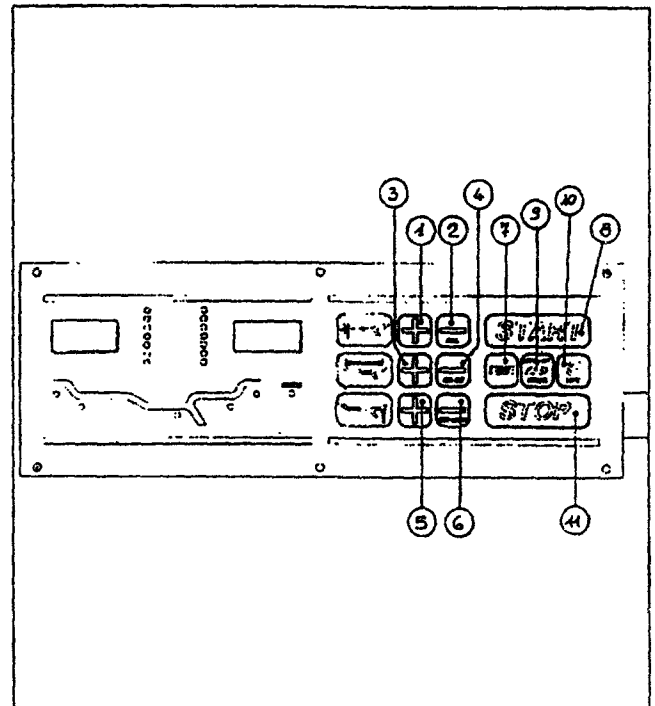
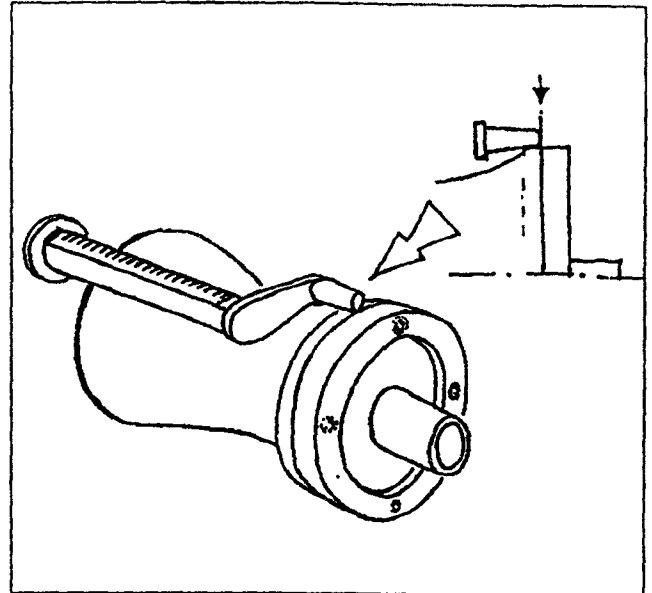
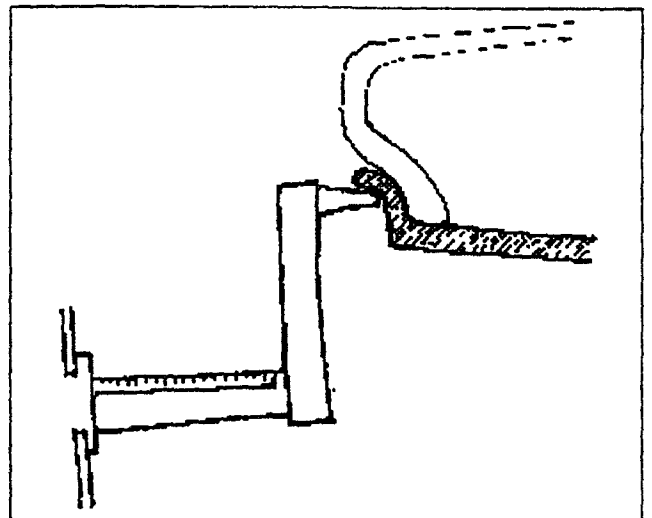

Fig.58
Fig.60
Fig.61
If the display in ounces is desired, push and hold for 3 sec. the conversion button (#4 Fig.58).
Press and hold the button 'FINE' (#7 Fig.58) to display the residual imbalance below 5 gr (0.25 oz) or in any case the value of imbalance with 1 gr pitch (0.1 oz).
The rim width is normally displayed in inches, however if the value in millimeters is desired, first push any of the width input buttons (#3 or #4 Fig. 58) then push and hold for 3 sec. the mm/inch conversion button (#6 Fig.58).
The rim diameter is normally displayed in inches, however if the value in millimeters is desired, first push any of the diameter input buttons (#5 or 6 Fig.58) then push and hold for 3 sec. the mm/inch conversion button (#11 Fig.58).
The rim offset is normally displayed in millimeters, however if the value in inches is desired, first push any of the offset input buttons (#1 or 2 Fig.58) then push and hold for 3 sec. the mm/inch conversion button (#6 Fig.58).
- B. Press the CAL button (#2 Fig.58) AND hold it for 5 seconds while turning the machine on. Two numbers are displayed and after a while
- C. Push F button (#10 Fig.58)
- E. Push "Offset +" button (#1 Fig.58)
- G. Set the offset gauge to the rest position, then move it about 5 mm. (1/5") and press the F button (#10 Fig.58)
press the F button (#10 Fig.58)
I. Set the gauge to read '16' (which is 160 mm. or 16 cm.) on the gauge meter. While holding the gauge in position, press the F button (#10 Fig.58)
B. Press the CAL button (#2 Fig.58) AND hold it for 5 seconds while turning the machine on. Two numbers are displayed and after a while
C. Push F button (#10 Fig.58)
E. Push "Diameter +" button (#5 Fig.58)
G. Move the gauge in contact with the outer diameter of the shaft (Fig.60). While holding the gauge in position press TWICE the F button (#10 Fig.58)
I. Move the gauge to measure rim diameter (Fig.61) and holding the gauge in position, press the F button (#10 Fig.58)
- C. Push and hold F button (#10 Fig.58) for 3 seconds
- E. Position the wheel with the valve at 12 o'clock and press ALU button (#9 Fig.58)
- G. Position the rim with the valve at 12:00 and push ALU button (#9 Fig.58)
- M. Push F button (#10 fig. 58) to exit program.